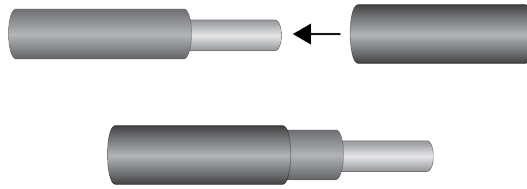

Figure 46. Sliding a Heat-shrink Tube Over the Grounding Wire
2. Slide a heat-shrink tube over the grounding wire. Refer to Figure 46